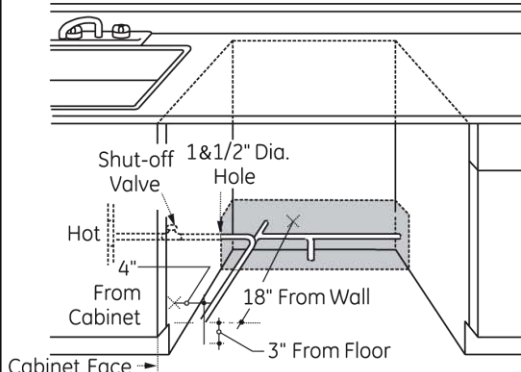

Figure 6
- The line may enter from Either side, rear or floor within the shaded area shown in Figure 6.
- Water connection is on the left side of the dishwasher. Install the hot water inlet line, using no less than 3/8" O.D. copper tubing. Route the line as shown in Figure 6 and extend forward at least 18" from rear wall.